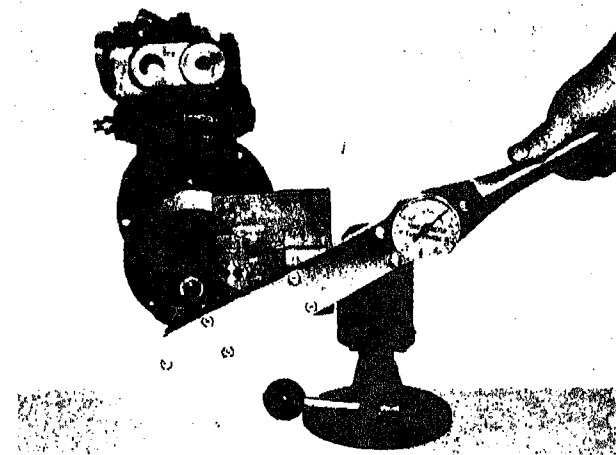

Fig. 12-2-31. Tighten counterweight capscrow
16. Tighten counterweight capscrow to 40 ft. lbs. Fig. 12-2-31.